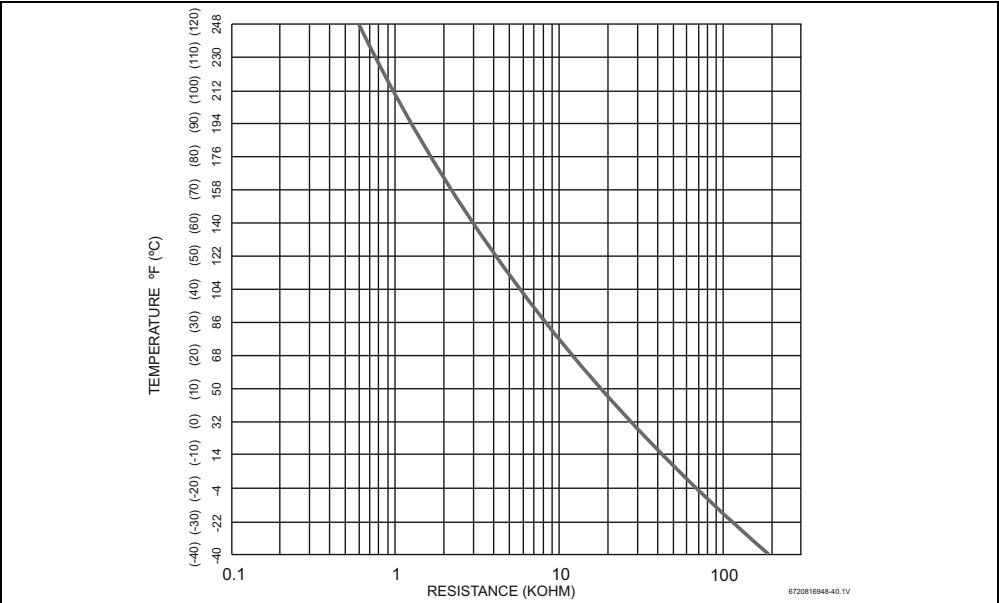

Fig. 53 Outlet / Inlet and heat exchanger immersion sensor characteristics
2) see temperature resistance charts in fig. 53 and 54.